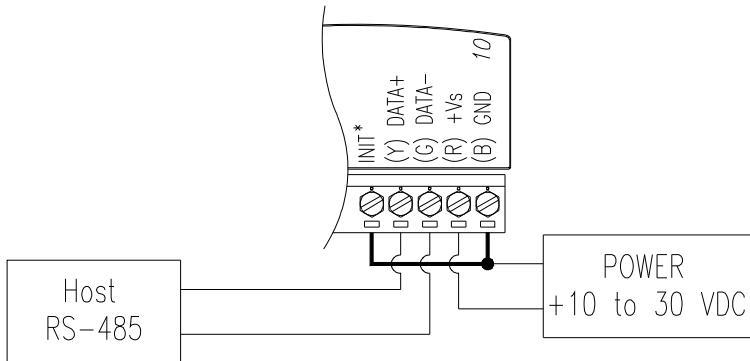

Figure 2-3 *Grounding the INIT\* Terminal*
- Power the ADAM module on while shorting the INIT\* and GND terminals (See Figure 2-3) or set the INIT switch to “Init” (See Figure 2-4)